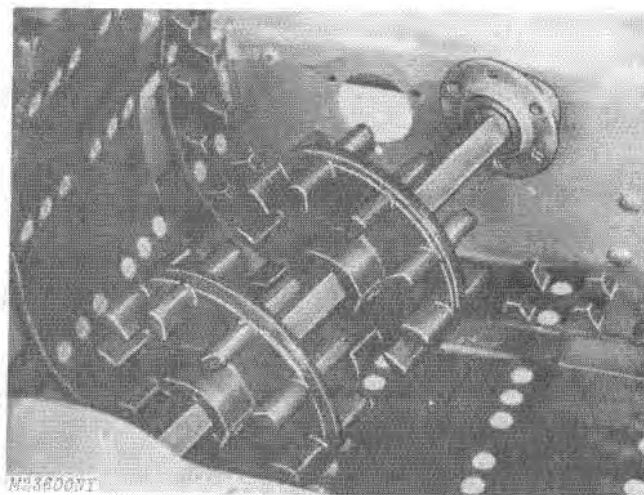

Fig. 18-Installing Drive Shaft
3. Position splined end of drive shaft through bearing in tunnel, Fig. 18.